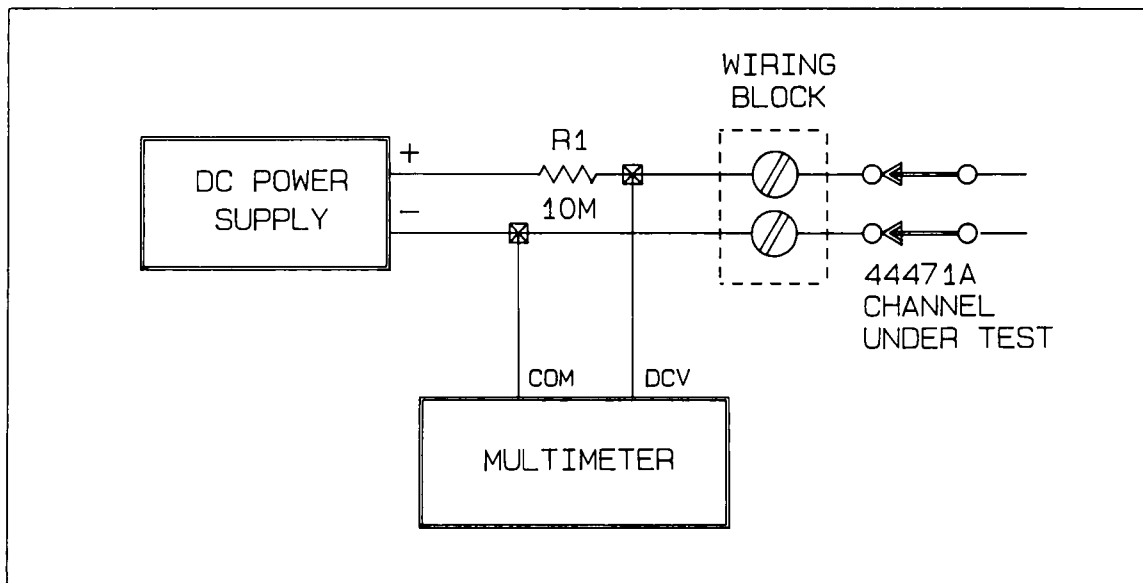

Figure 9-8 Adjacent Channel DC Isolation
16. Connect the equipment to the adjacent channels under test (channels 00 and 01 to start) as shown in Figure 9-8.